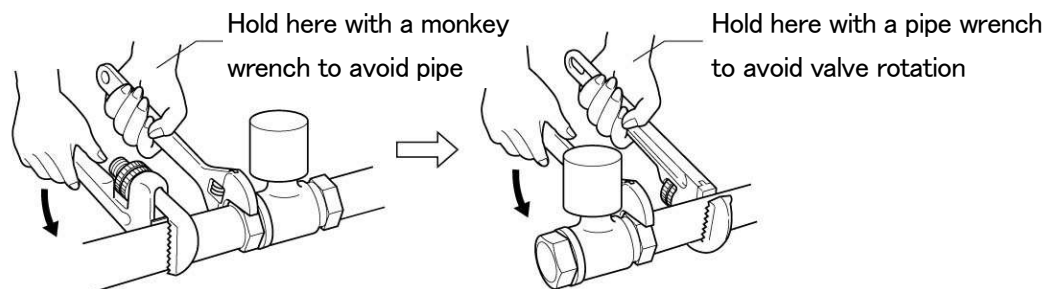

Fig.39
- ① For dismantling an actuated valve from piping, after having checked that there is no fluid residue left inside, use two wrenches as shown in **Fig.39**.